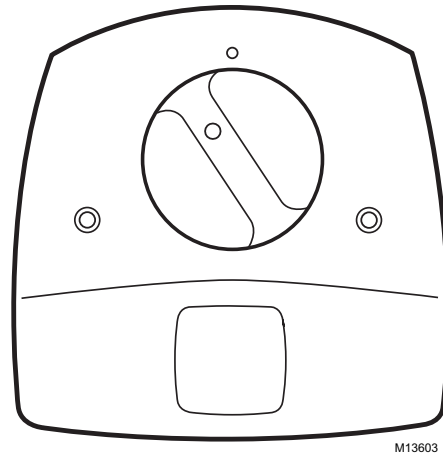

Fig. 8. Insert bulb into base unit.
11. Insert the bulb into the base unit with the lamp light indicator at the eleven o'clock position (left of the raised button on the unit cover). See Fig. 8.